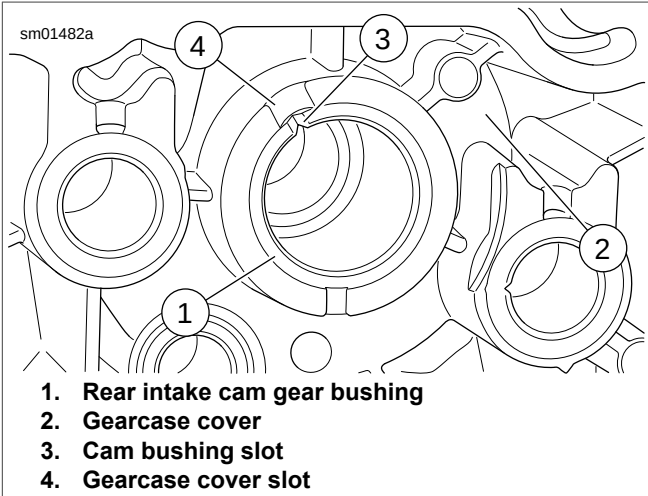

Figure 3-117. Rear Intake Cam Gear Bushing Installed in Gearcase Cover
1. See Figure 3-117. Position bushing (1) over bore of gearcase cover (2) with chamfered edge downward and slot upward. Align slot in bushing with slot in gearcase cover boss. Press bushing into cover bore until bushing is flush with cover boss.